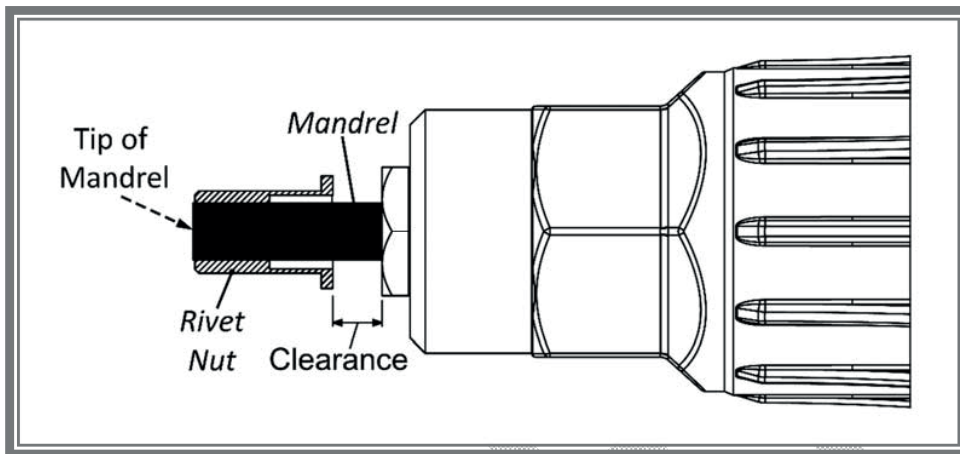

Figure 8
7. Release the trigger of power drill when the tip of rivet nut reaches tip of the mandrel (figure 8).
**NOTE:** if not using the included mandrel or the recommended mandrel length, or if the rivet nut to be used is shorter or longer than typical rivet nuts, please leave a clearance of 4 – 8 mm between the end of rivet nut and the anvil (figure 8) to allow the drive mechanism to engage sufficiently prior to compressing rivet nut. Not leaving enough clearance could lead to early failure of the drive mechanism.